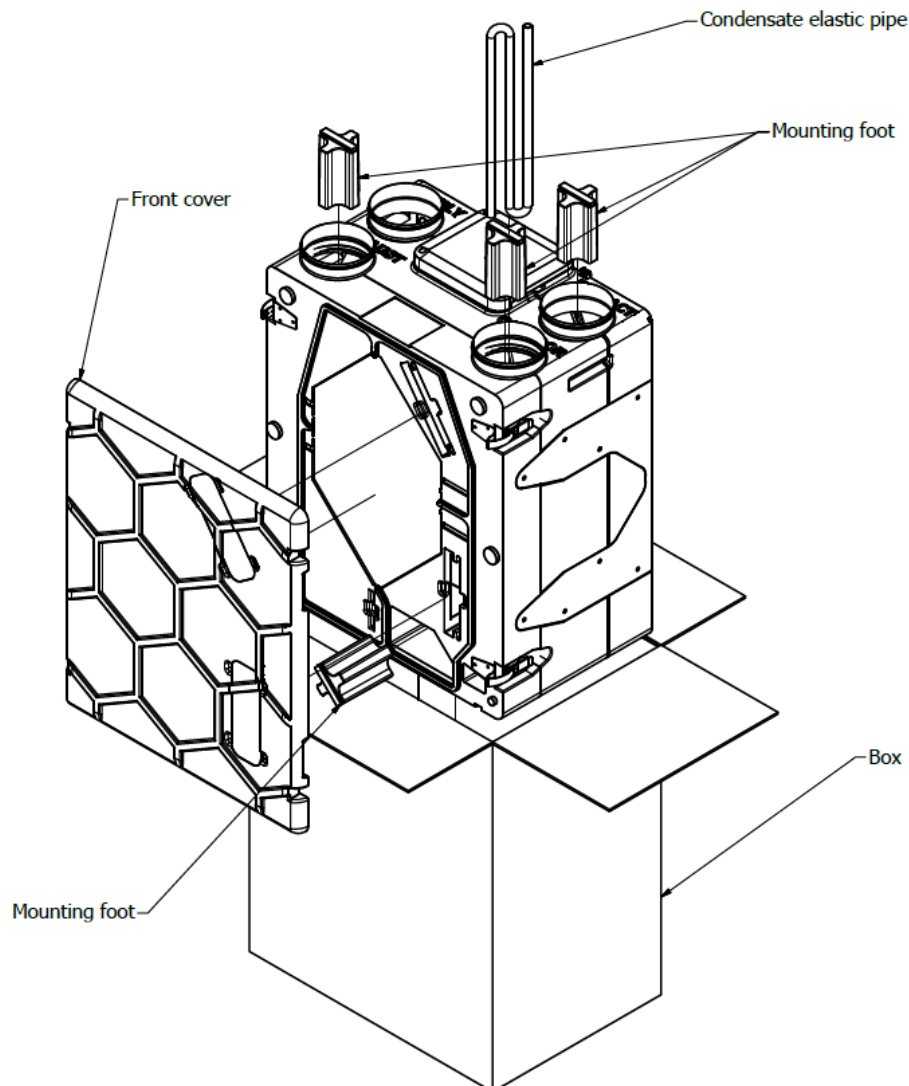

Figure 4 – heat recovery unit unboxing
2. Take mounting feet (4 pcs) and condensation elastic pipe out of heat recovery unit (see figure 4)